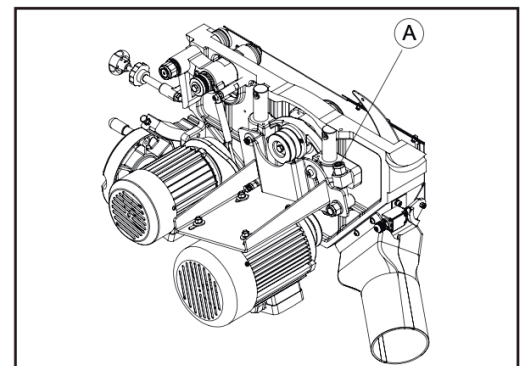

Fig.7.2
- the screw rod at A of figure 7.2 with 6mm allen wrench.